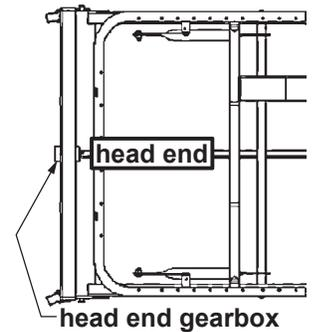

Fig 3: All Bed Models:
3. Attach other end of hi/lo rod assembly to head end gearbox as shown in Fig 3 above.